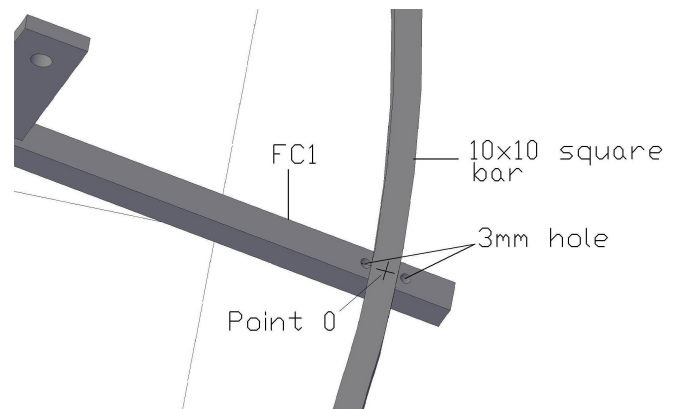

Fig. 41: centrebar attachment points
**Step 12** Repeat with a 10x10mm square bar at Point 0. See Fig.41.
as shown in Fig.41